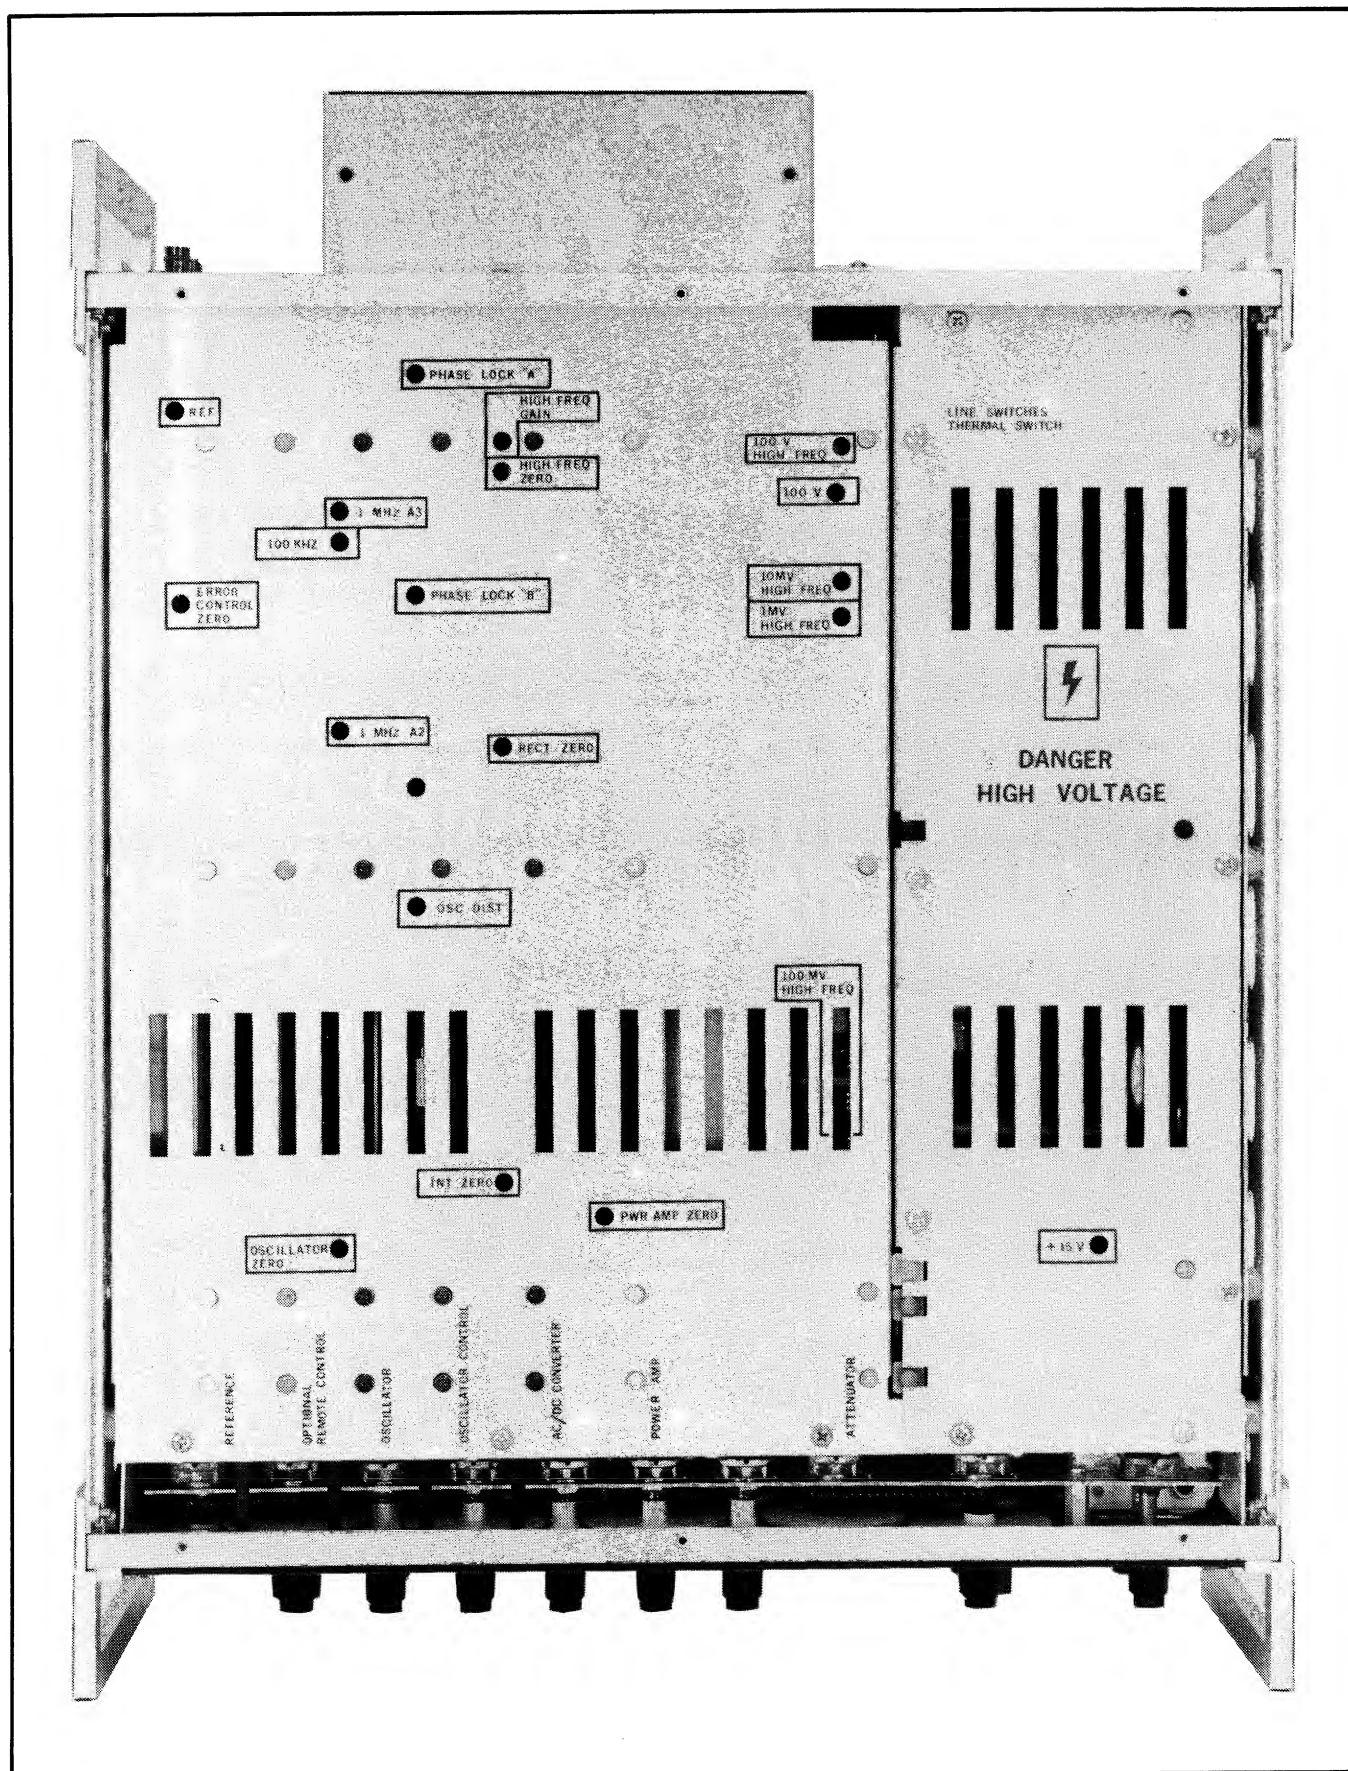

Figure 4-6. LABELED ADJUSTMENT PORTS
*Adjustments may be made through the installed cover at the labeled points, as shown in Figure 4-6.*
4-77. The following procedural sub-paragraphs deal with voltage amplitude and linearity for all voltage ranges except the millivolts. The equipment should be connected as shown in Figure 4-2 with both inner covers installed. Adjustments are made through the marked ports in the instrument compartment inner cover as shown in Figure 4-6. Perform the test